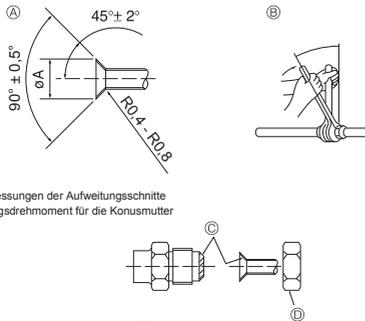

Fig. 5-1
Ⓐ (Fig. 5-1)
Ⓑ (Fig. 5-1)
5.2. Rohranschlüsse (Fig. 5-1)